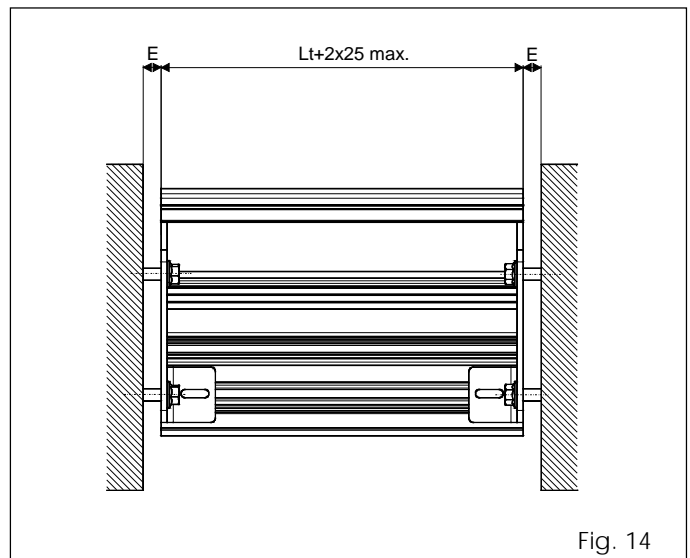

Fig. 14
- Secure the side plates using adequate expansion plugs (not supplied) and, if necessary, use shims for the spaces E (fig. 14). Intermediate fastenings may be necessary (on wall or on ceiling as the case may be) according to the length of the head profile: